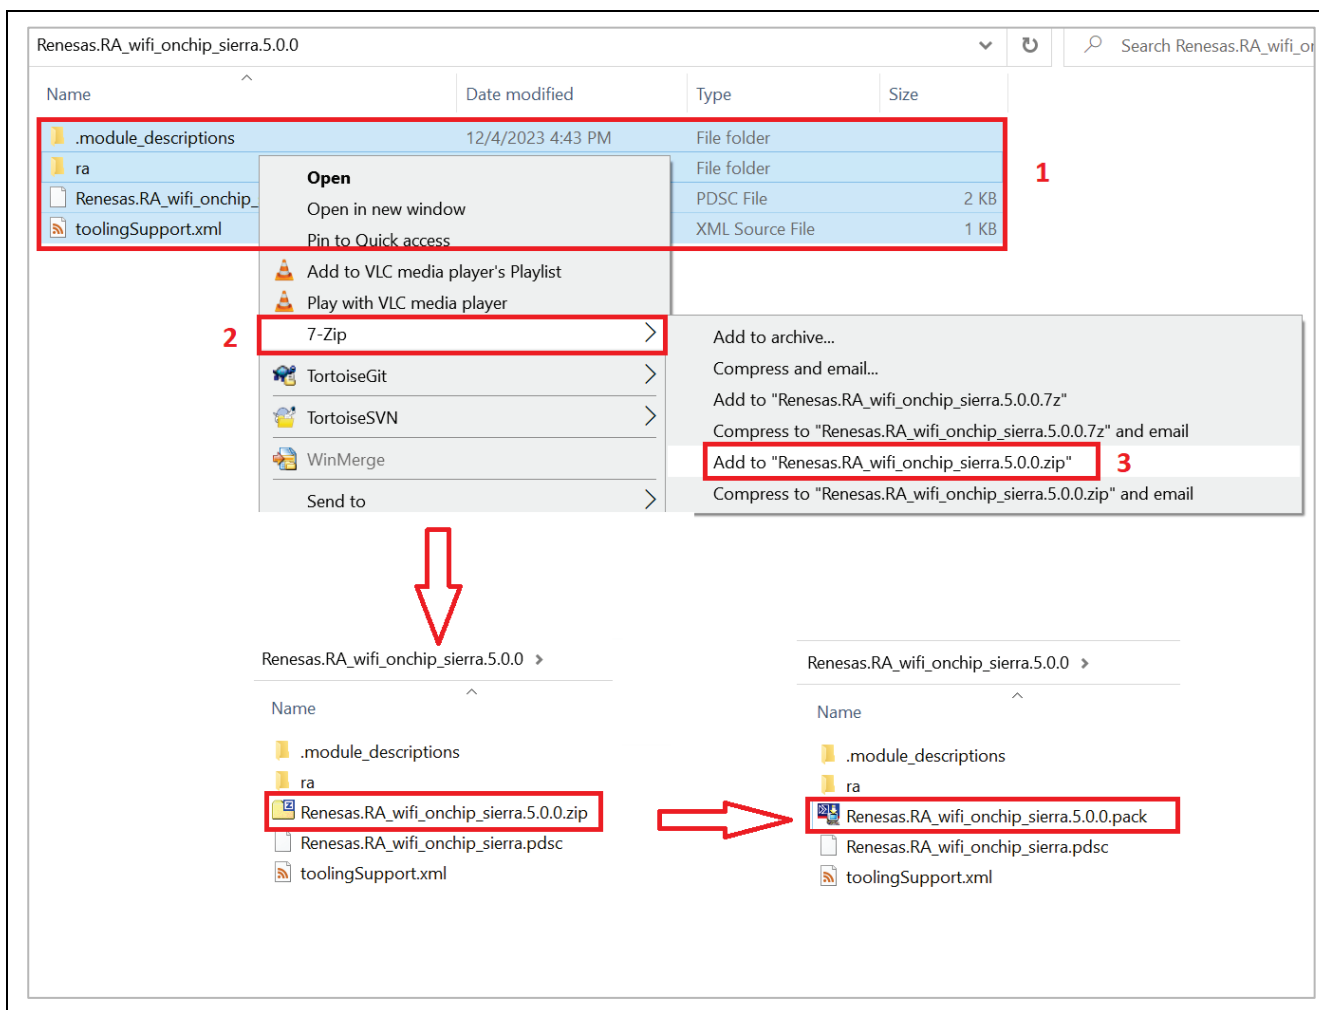

Figure 10. Pack Creation from the Zip File for the New Wi-Fi Driver Pack
- After all the changes are in place, you need to create a zip file using the 7-zip utility. The method for creating the .zip file and later renaming as, .pack file is shown in Figure 10.